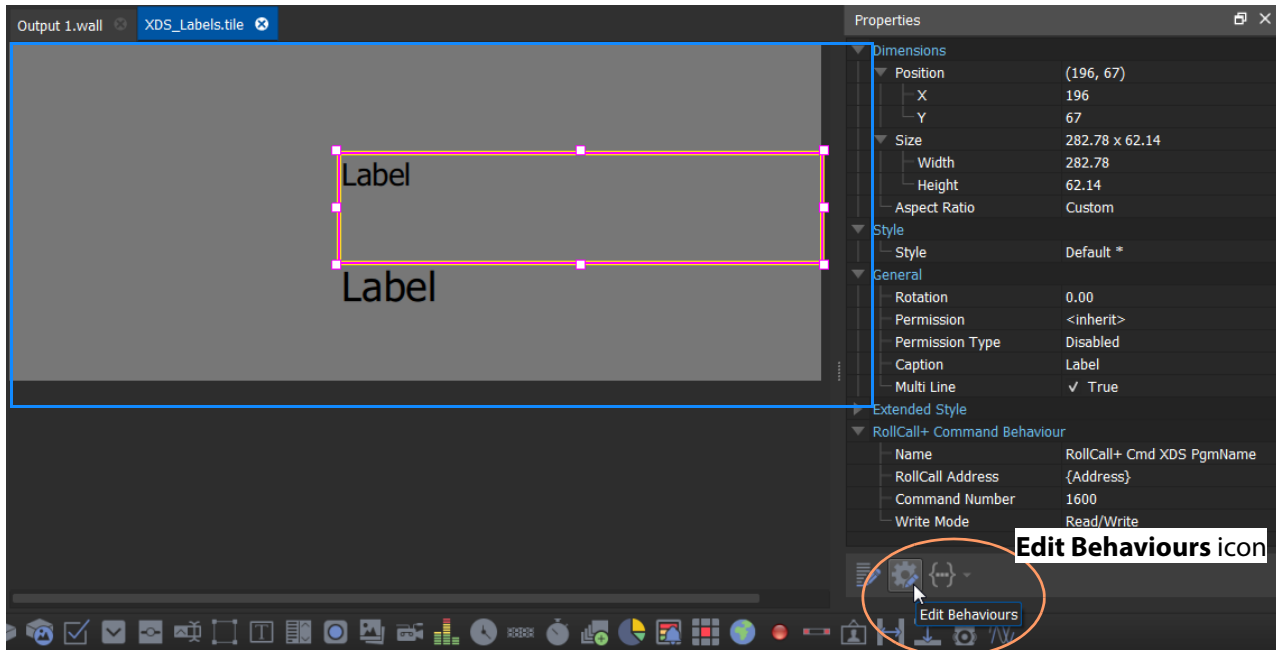

Fig. 5-7: 'XDS Labels' on New Tile
- 4 Select one **Label** and click the **Edit Behaviours** icon (see Figure 5-7) to open the 'Behaviours and Bindings' graphical editor.